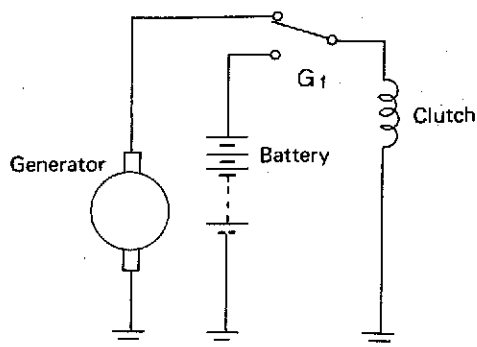

Fig. 19
- 1) Changing dynamo excitation and battery excitation (Fig. 19).